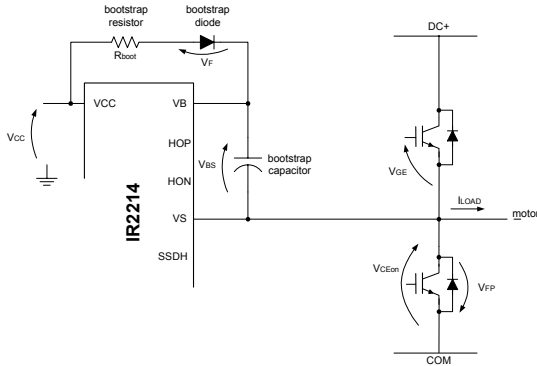

Figure 19: Bootstrap Supply Schematic
In the high side circuit, the de-saturation biasing current may become relevant for dimensioning the bootstrap capacitor (see Fig. 19). In fact, a pull up resistor with a low resistance may result in a high current the significantly discharges the bootstrap capacitor. For that reason, the typical pull up resistor value is on the order of 100 k $\Omega$ . This is the value of the internal pull up.
The  $V_{BS}$  voltage provides the supply to the high side driver circuitry of the gate driver. This supply sits on top of the  $V_S$  voltage and so it must be floating. The bootstrap method is used to generate the  $V_{BS}$  supply and can be used with any of the IR21141, IR22141 drivers. The bootstrap supply is formed by a diode and a capacitor as connected in Fig. 19.
**Voltage Ripple:** There are three different cases to consider (refer to Fig. 19).
**Bootstrap Resistor:** A resistor ( $R_{boot}$ ) is placed in series with the bootstrap diode (see Fig. 19) in order to limit the current when the bootstrap capacitor is initially charged. We suggest not exceeding 10  $\Omega$  to avoid increasing the  $V_{BS}$  time-constant. The minimum on time for charging the bootstrap capacitor or for refreshing its charge must be verified against this time-constant.